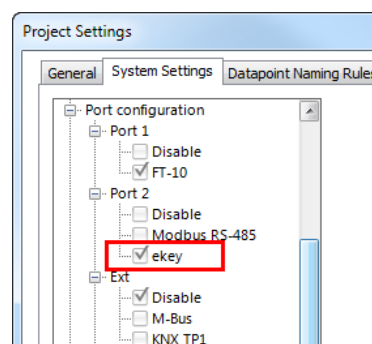

Figure 177: Enabling ekey in the Project Settings Dialog.
2. In the **System Settings** tab enable the ekey protocol on an RS-485 port, as shown in Figure 177.